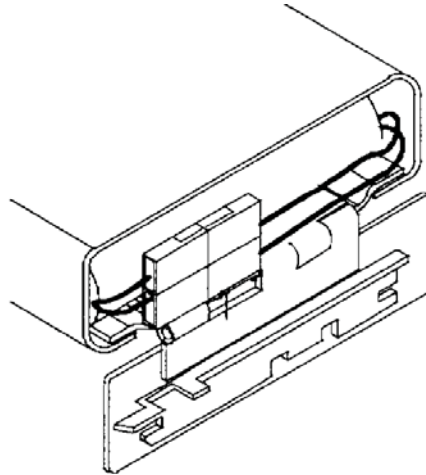

Figure 3-4, Battery to Power Source Connection
6. Once the battery is fully seated, engage the RF power source connector to the battery connector. See Figure 3-4, Battery to Power Source Connection.